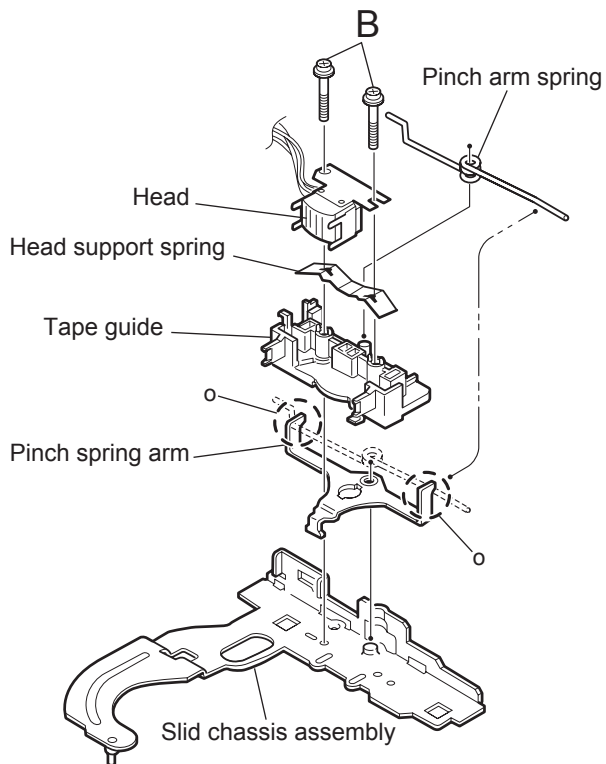

Fig.16
2.2.8 Removing the head / tape guide (See Fig.16 and 17)
When reattaching the head, set the wires into the groove of the tape guide (Fig.16).